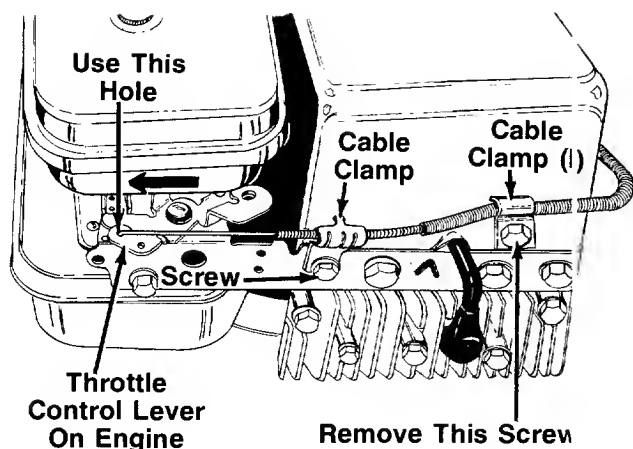

FIGURE 7.—Standard Engine
12. Route the throttle control cable under the lower handle and inside the handle mount bracket. Hook the "Z" end of the throttle control cable into the **outside** hole in the control lever on the engine. See figure 7.
13. Remove the screw on the cable clamp shown in figure 7. Slip the control casing under the clamp. Replace the screw, but do not tighten (cable must still move freely beneath the clamp).
14. Push the throttle control lever on the engine to the full open position as shown in figure 7. Tighten the screw to secure the throttle control cable in this position.